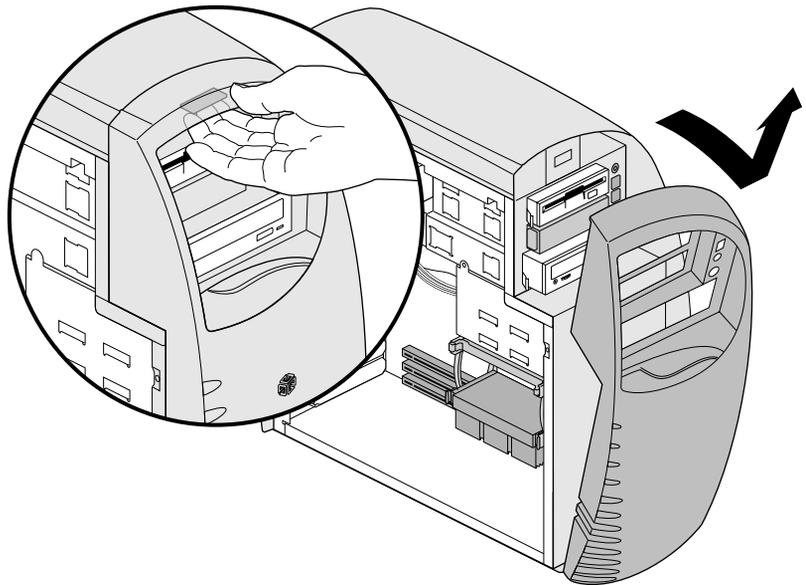

Figure 2-2 Removing the Front Cover
2. Pull up on the latch inside the top of the cover, as shown in Figure 2-2, and pull the cover away from the system.